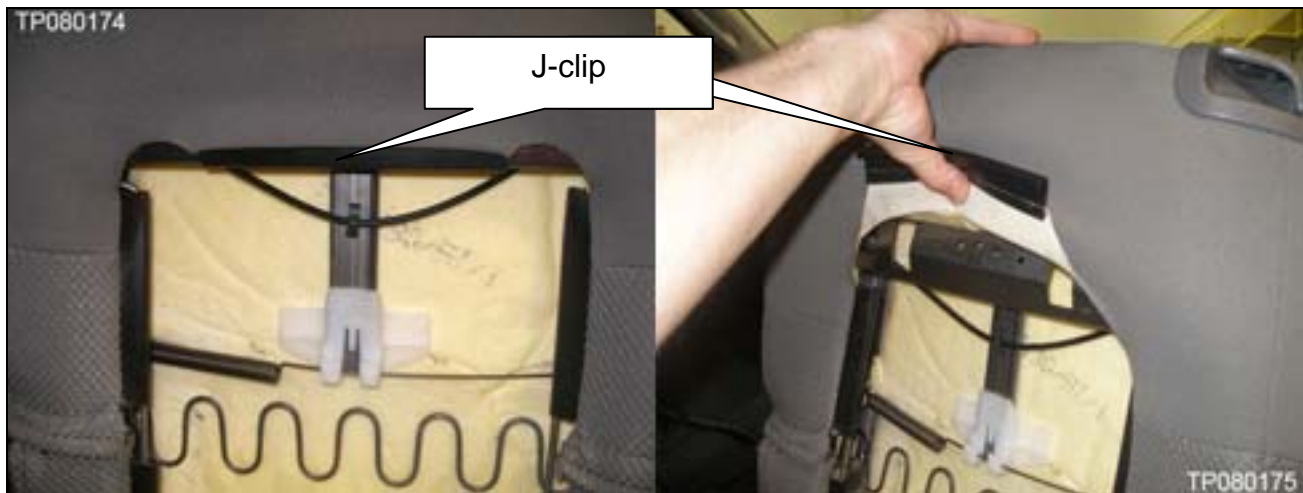

Figure 4
4. Pull J-clip up and fold back. See Figure 4.